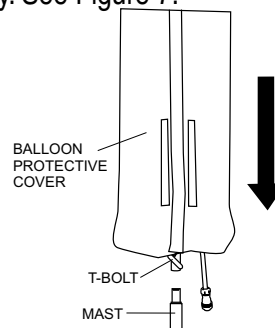

Figure 7. Installing the Balloon
5. Insert the balloon assembly into the mast. Tighten the T-bolt securely. See Figure 7.